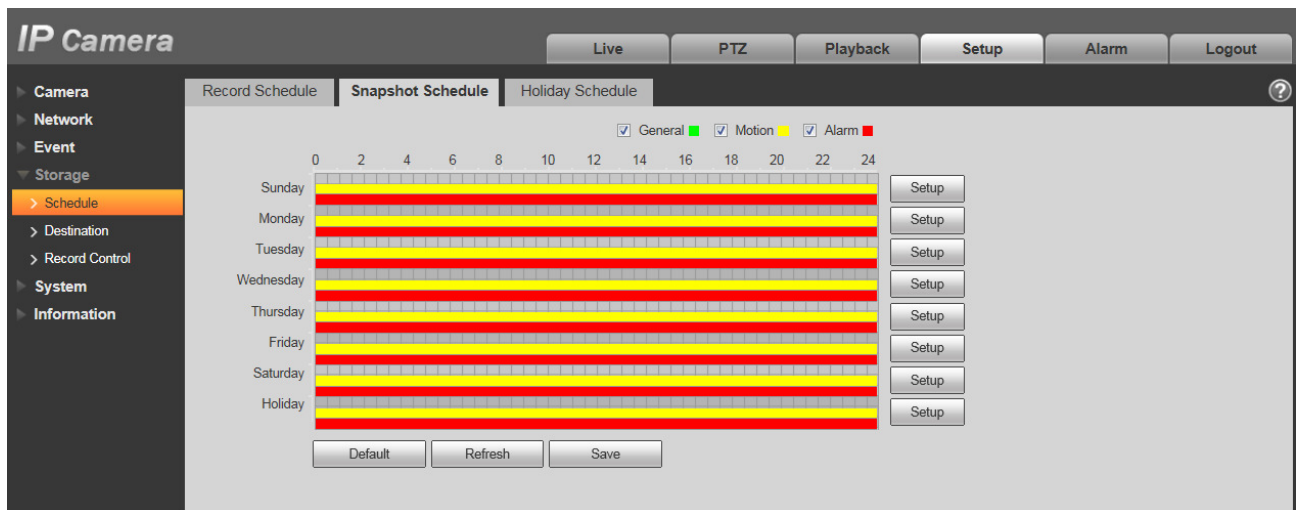

Figure 5-94
Step 3. Click on OK, return to snapshot schedule interface. See Figure 5-94.